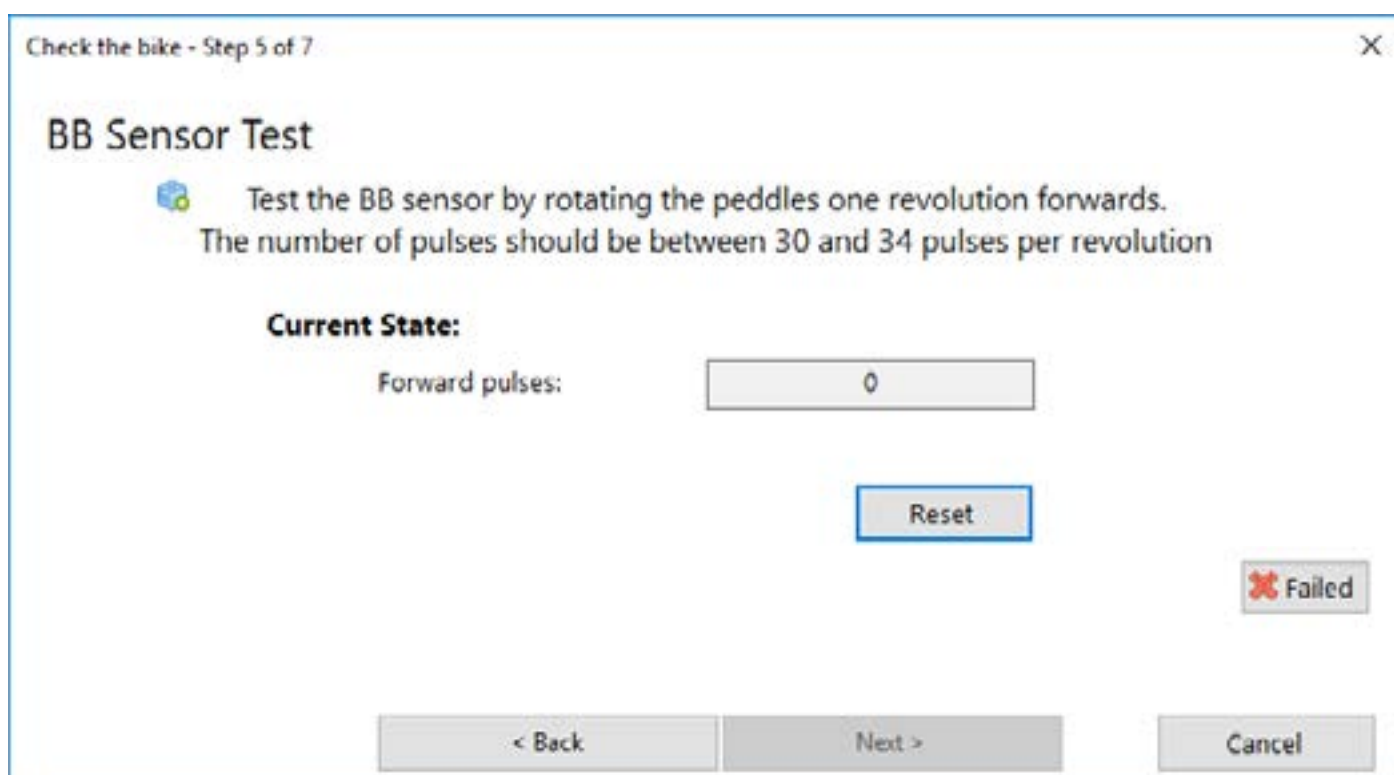

Figure 3.54 Bottom bracket set sensor test
5. **Bottom bracket sensor test** – rotate the pedal one turn in the forward direction and verify the operation of the bottom bracket sensor (Fig. 3.54). Depending on what bottom bracket set is used a different number of pulses is required to successfully complete this test (revolution sensor 16 pulses, torque revolution sensor 32 pulses). Click “Reset” and repeat the test if you are unable to generate the required quantity of pulses during a single rotation. Click on “Failed” if the test cannot be passed after the 3rd attempt.